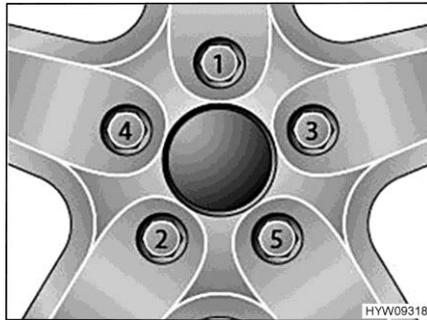

Fig. 232 Tightening the wheel nuts or wheel bolts cross-wise
- Tighten the wheel nuts or wheel bolts in the order shown in Fig. 232. In order to do this, use a torque wrench and comply with the specified tightening torque (see section 13.5.2).
- Check regularly that the wheel nuts or wheel bolts are firmly seated. Re-tighten the wheel nuts or wheel bolts of a changed wheel after 50 km (30 miles). While doing so, proceed in the order shown in Fig. 232.
- When using new or newly painted rims, re-tighten the wheel nuts or wheel bolts once again after approx. 1,000 to 5000 km (600 miles to 3,000 miles). While doing so, proceed in the order shown in Fig. 232.
- ▷ Tighten the wheel nuts or wheel bolts cross-wise (Fig. 232).